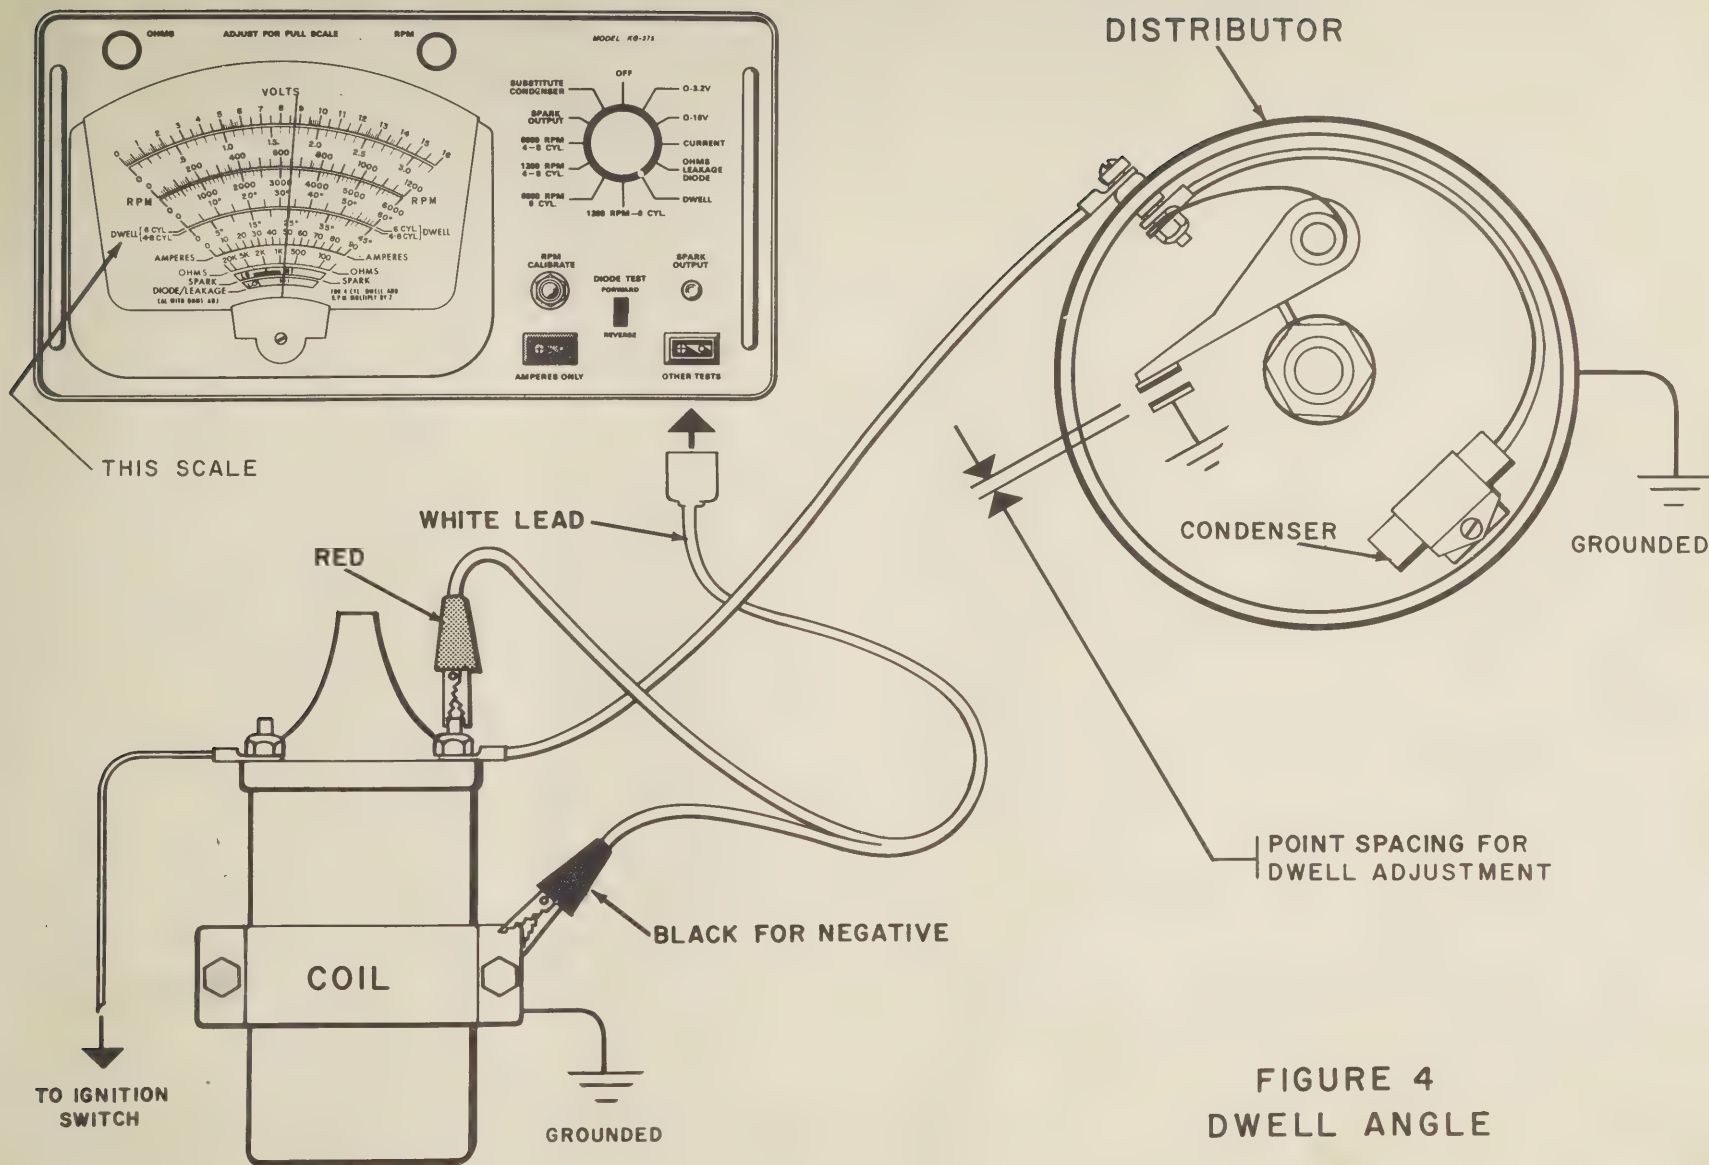

FIGURE 4
SEE FIGURE 4
1. Refer to the typical hook-up, Figure 4, and connect the analyzer accordingly.